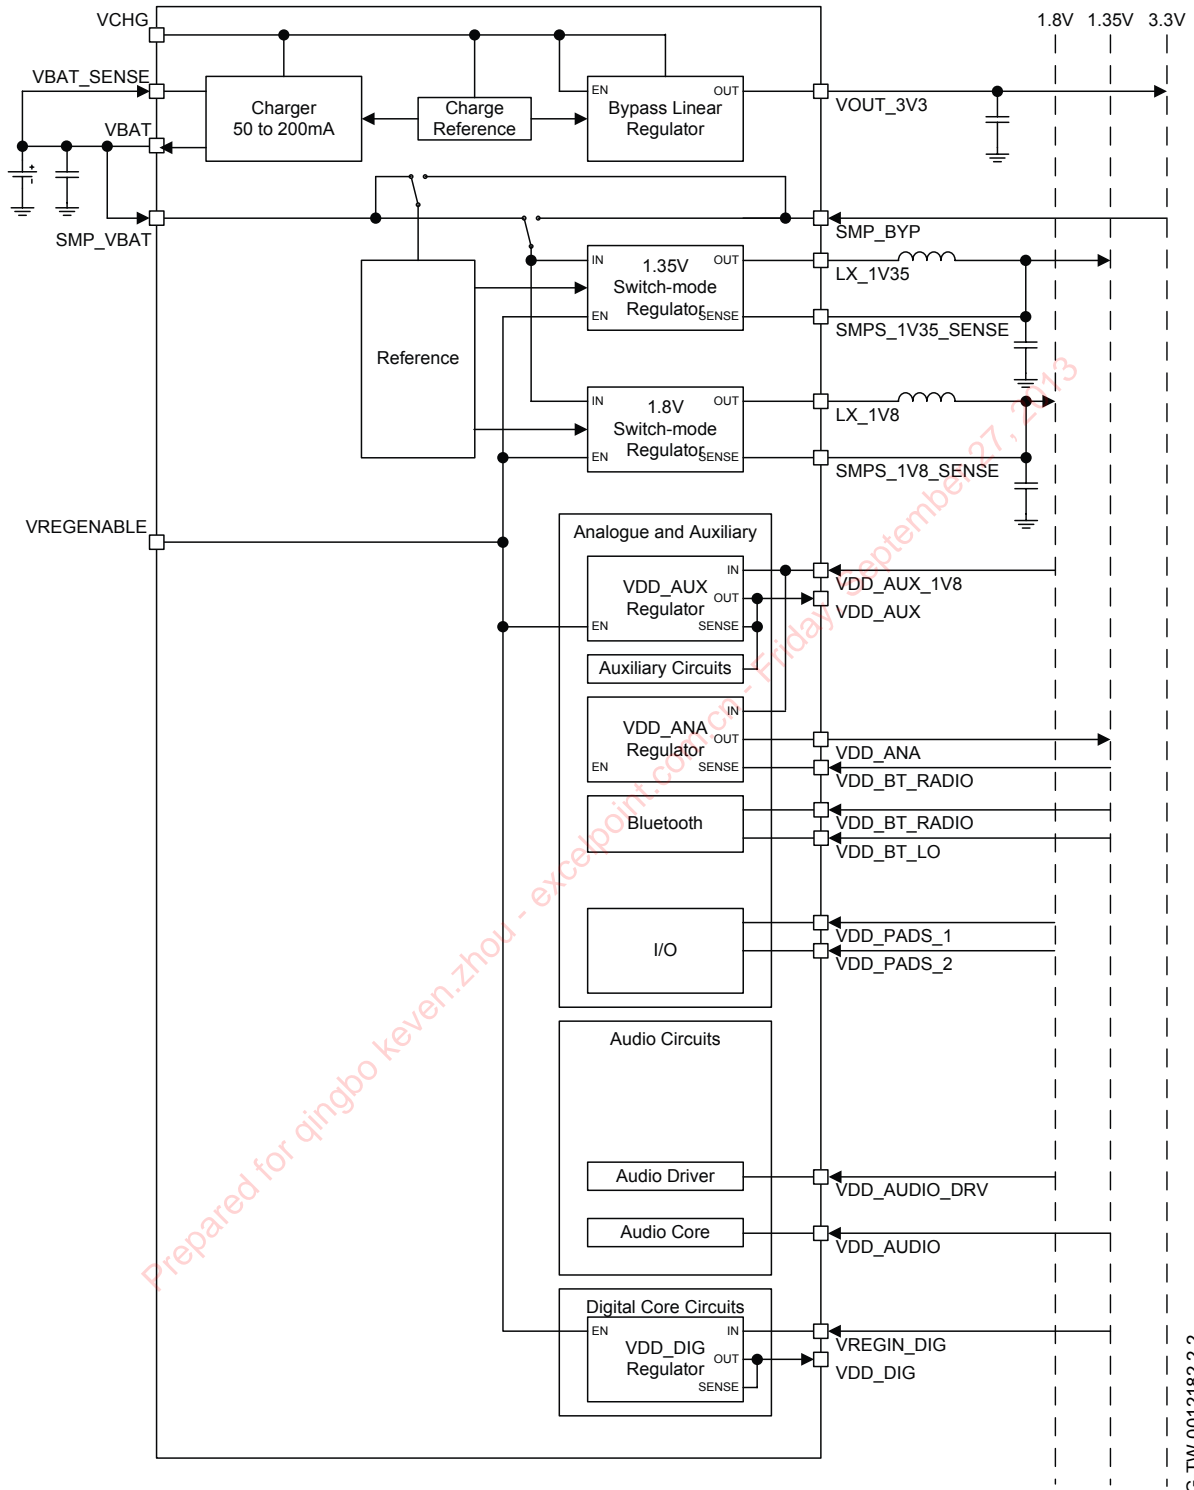

Figure 10.1: 1.80V and 1.35V Dual-supply Switch-mode System Configuration
- A 1.80V and 1.35V dual-supply rail system using the 1.80V and 1.35V switch-mode regulators, see Figure 10.1. This is the default power control and regulation configuration for the CSR8635 QFN.